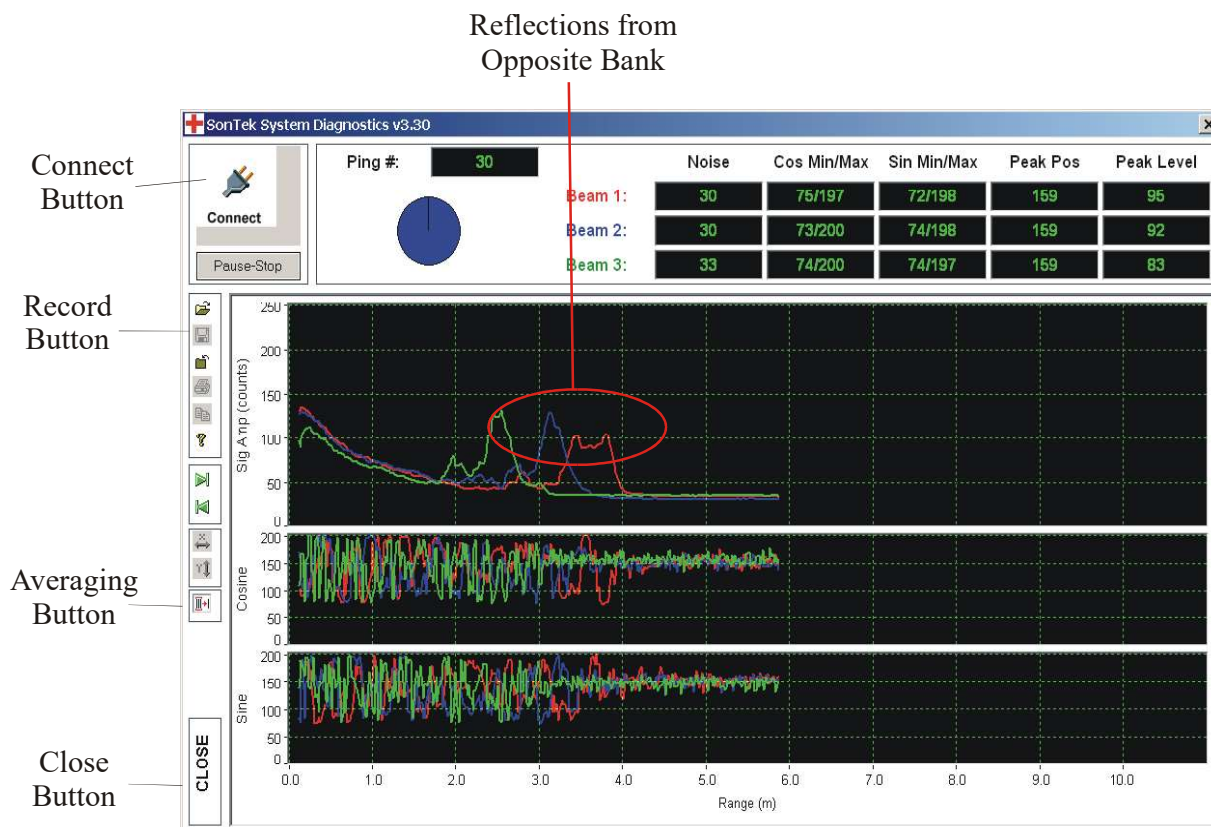

Figure 5-23. Diagnostics Sample Data
6. Allow the SL to collect about 20 pings of data. Figure 5-23 shows a sample output with an SL deployed about 2.1 m from the opposite bank.